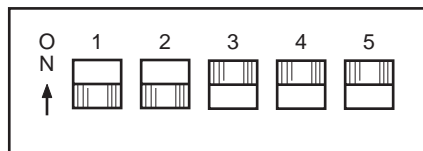

Figure 2.8
5. Select an address from 1 to 9. Then use the binary address switches on the TGA connector panel to set the desired address (Table 2.1). Figure 2.8 shows a instrument address of 7.